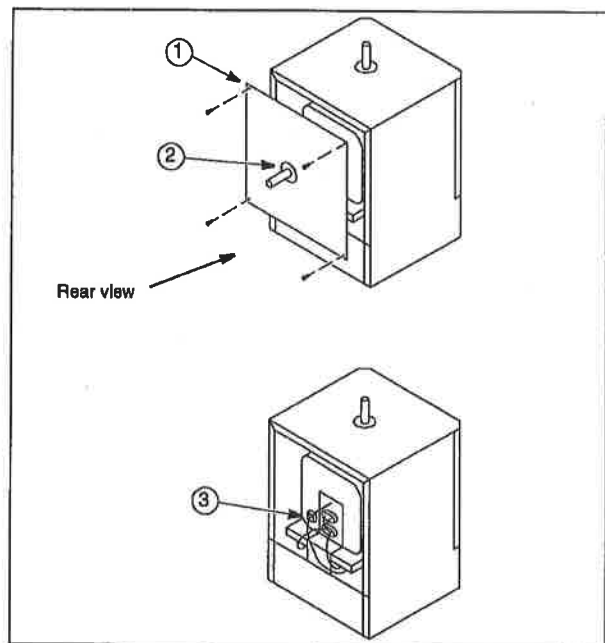

Figure 6. Thermocouple Replacement
Refer to Figure 6 as you perform the following procedure:
1. Remove any atmosphere piping connected to the atmosphere pipe (item #2 in Figure 6).
3. Remove the screws from rear panel corners. Remove the rear panel (item #1 in Figure 6).
6. Slide out head and old thermocouple (item #3 in Figure 6).